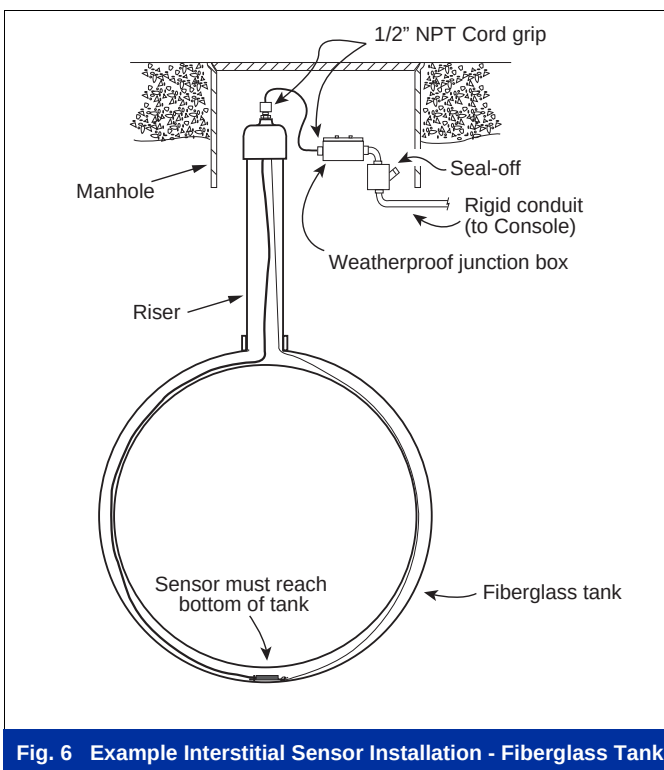

Fig. 6 Example Interstitial Sensor Installation - Fiberglass Tank
- Installation example (see Fig. 6)